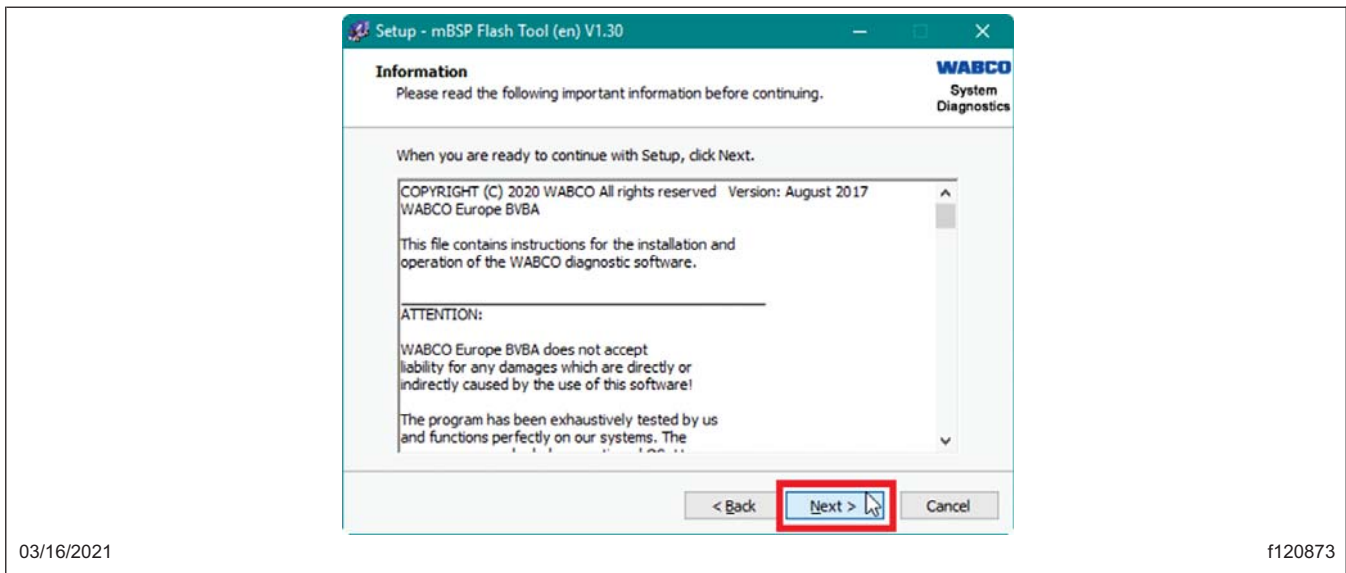

Fig. 13, Navigating Past the Information Window
- 7.7 An 'Information' window will appear; read the information and then select 'Next.' See Fig. 13.